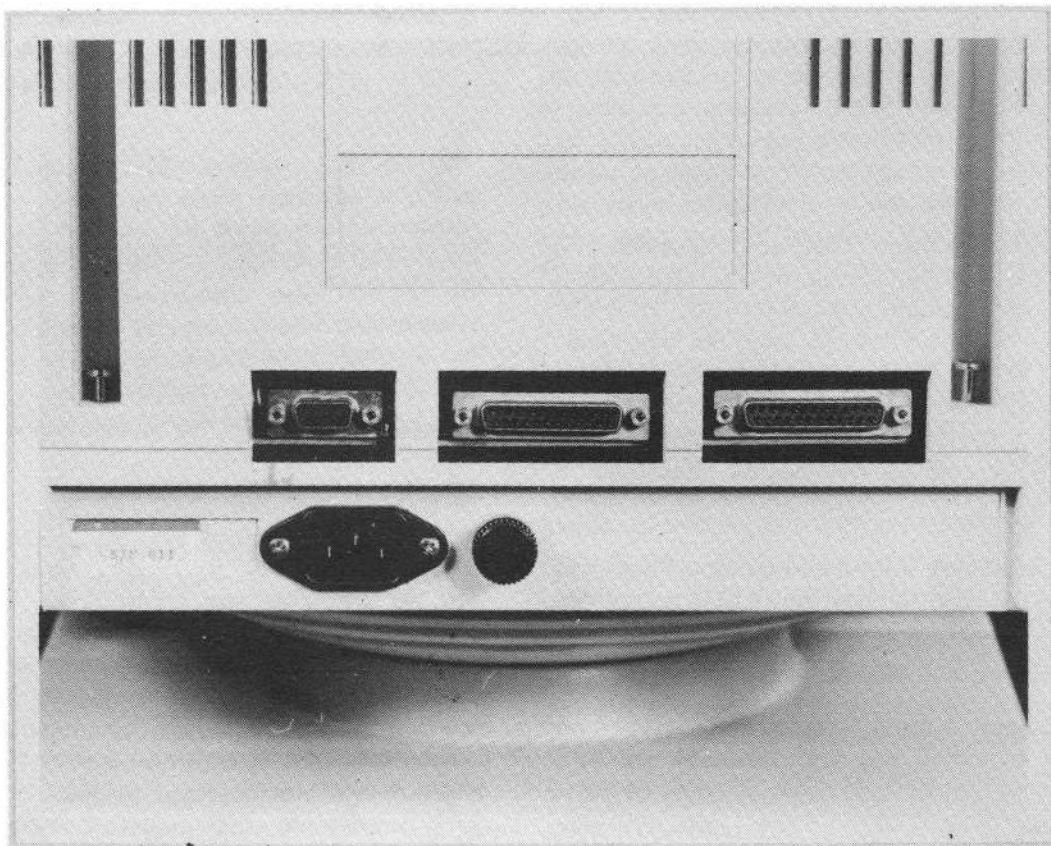

Figure 5-1. Rear of Terminal
5.1.3 EIA Input/Output Connector. The standard EIA input/output connector located on the rear of the terminal (see figure 5-1) provides the connection to the appropriate data set or acoustic coupler. The signals conform to EIA Standard RS-232C. These are listed in table 5-1.
The auxiliary input/output connector is located at the rear of the terminal (see figure 5-1). It provides the EIA RS-232C voltage level signals listed in table 5-2.